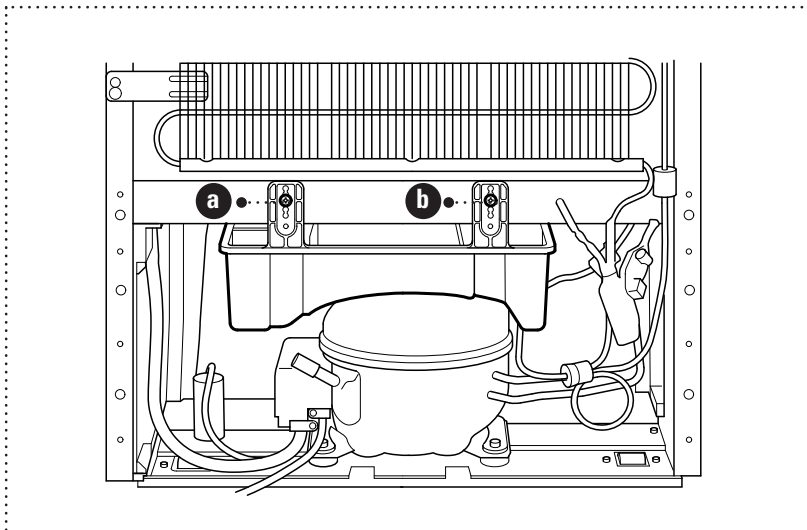

Figure 7
- 1 Remove the vaporisation container by unscrewing the 2 screws (a) and (b) (Figure 7)